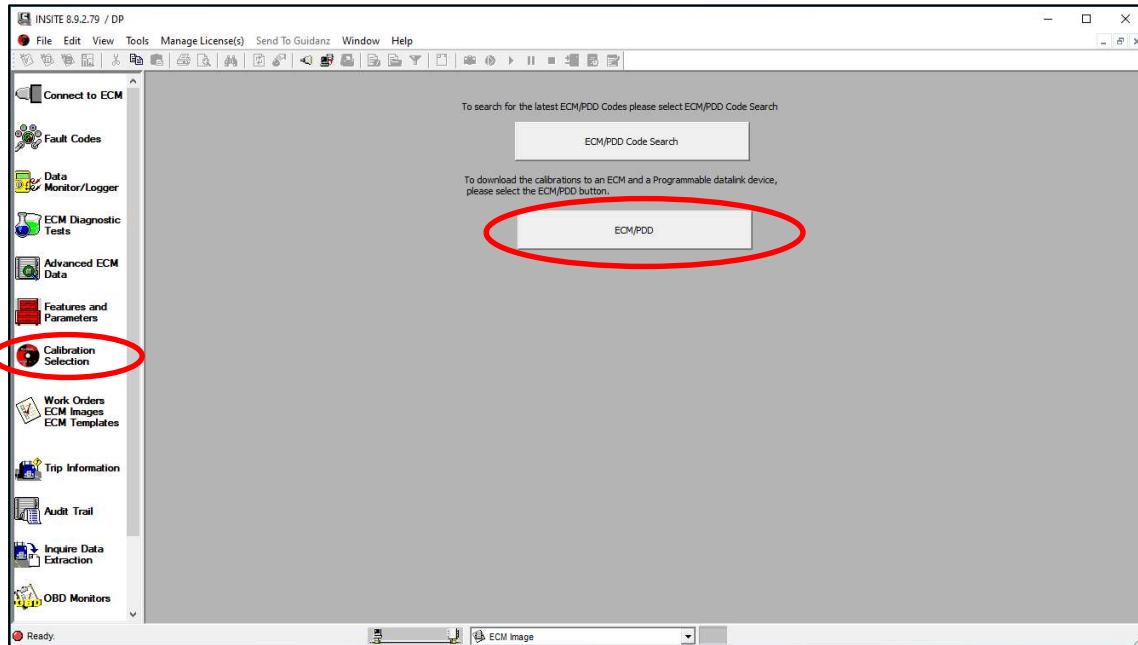

Figure 23
33. Select ECM/PDD on the Calibration Selection page. See figure 23.